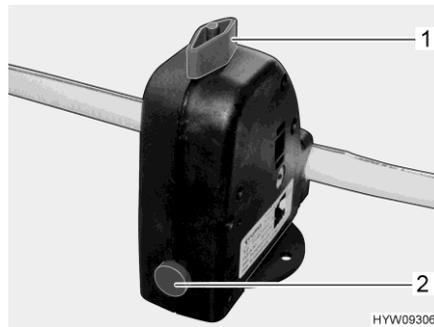

Fig. 80 Safety/drainage valve (boiler)
The boiler is equipped with a safety/drainage valve (Fig. 80). The safety/drainage valve prevents water in the boiler from freezing, when there is frost and the heater is not switched on.
- Close the safety/drainage valve. Turn the knob (Fig. 80,1) perpendicular to the safety/drainage valve and push the push button (Fig. 80,2) in.
- Open the safety/drainage valve. To do this turn the knob (Fig. 80,1) parallel to the safety/drainage valve. The push button (Fig. 80,2) jumps out. The boiler is drained to the outside by the safety/drainage valve.